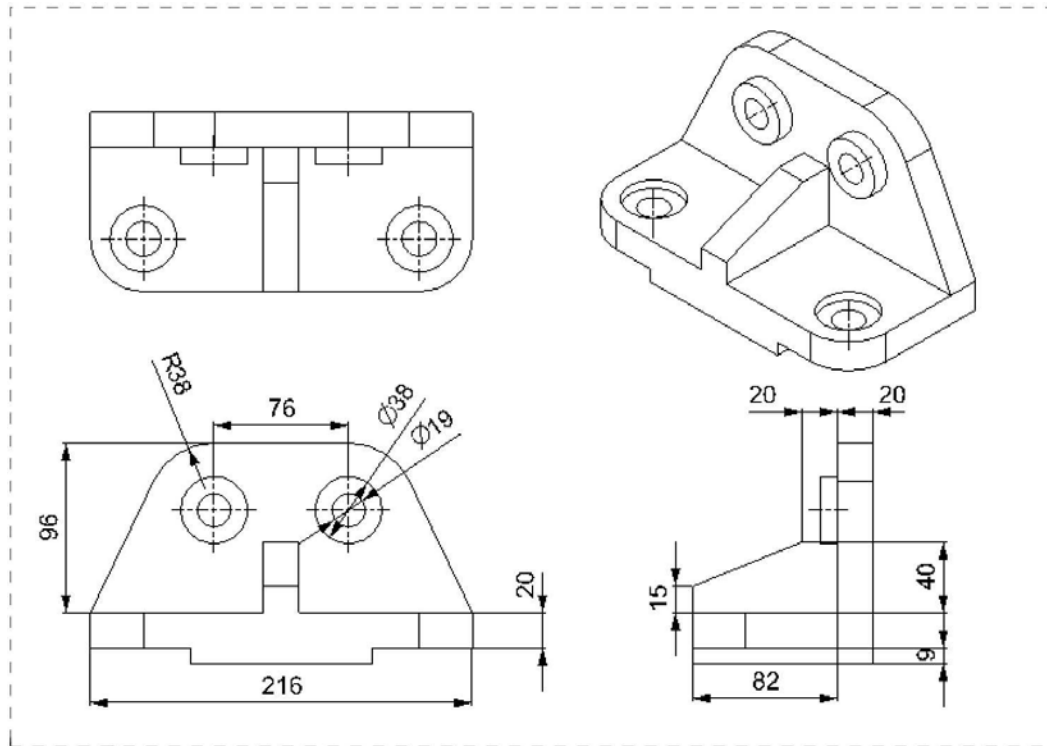

Figure 12-66 The drawing views after retrieving and creating the dimensions for the right side-view
1. Again, choose the **Rapid** tool from the **Dimension** group and add the dimensions to the right side view. The right side view after adding the required dimensions should look similar to the one shown in Figure 12-66.